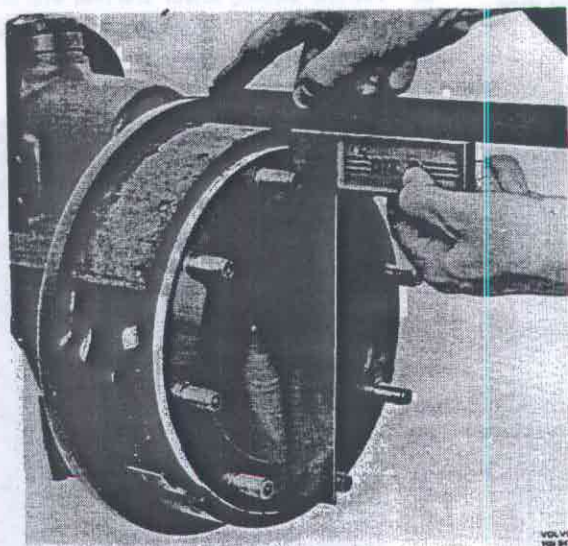

Fig. 51-8. Checking the right angle
5. Check that the linings are at right angles to the king pin, see Fig. 51-8. To adjust use the support screw in the backing plate. Tighten up after adjusting.